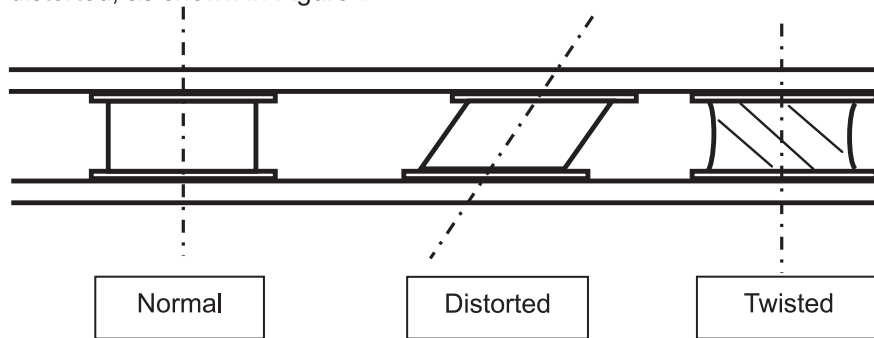

Figure 7 - Example installing vibration isolation rubber
- (1) If you use vibration isolation rubber during the installation, ensure that the upper and lower sides of the hole are positioned in a vertical line and that no part of the rubber is twisted or distorted, as shown in Figure 7.